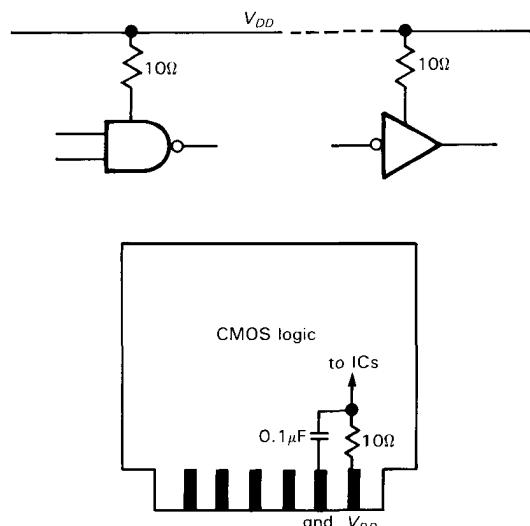

Figure 14.39. Supply current sensing ("current spy").
7. Put current-sensing resistors in the V_{DD} lead. In certain failure modes (see below), particularly those caused by static damage, a CMOS chip may draw excessive quiescent current; a 10 ohm resistor in series with V_{DD} on each board (bypass the load side) makes it easy to see if that is happening. Putting such a resistor on each chip (usually no need to bypass in this case) allows you to locate the bad chip quickly (Figure 14.39).